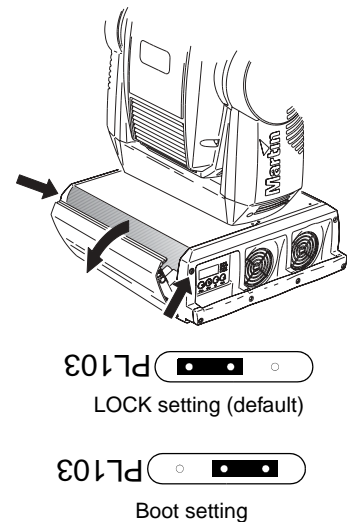

Figure 17: Setting the boot sector jumper
- 2 Remove the top screws from the ends of the front side panel and tilt the panel down to expose the main circuit board (Figure 17).